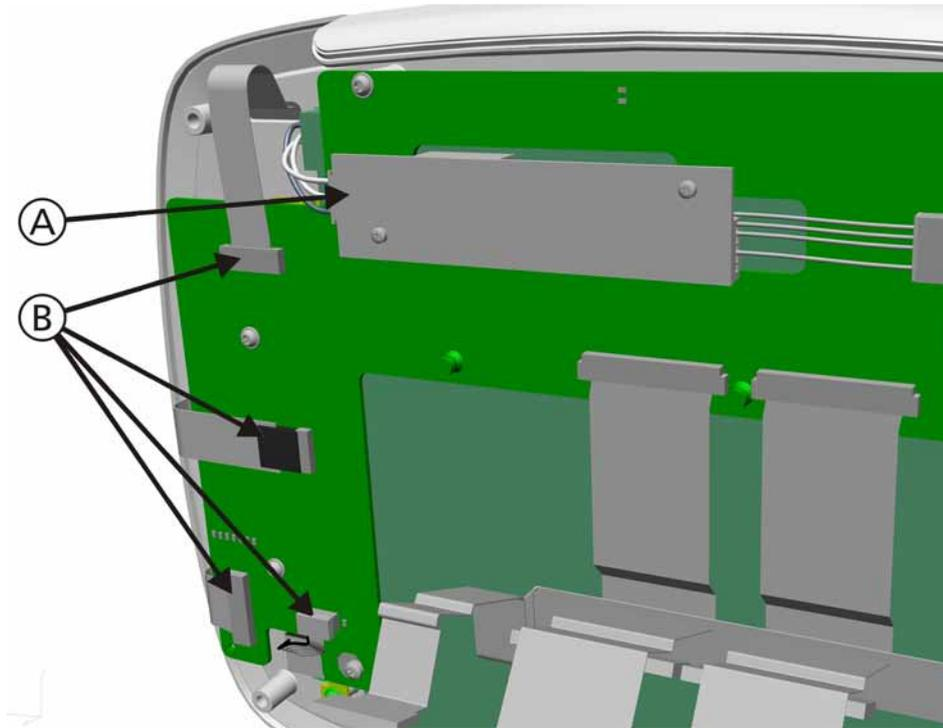

Figure 11-6. Interaction Panel Board Removal, Step 1
- Figure 11-6, *Interaction Panel Board Removal, Step 1*, on page 11-11